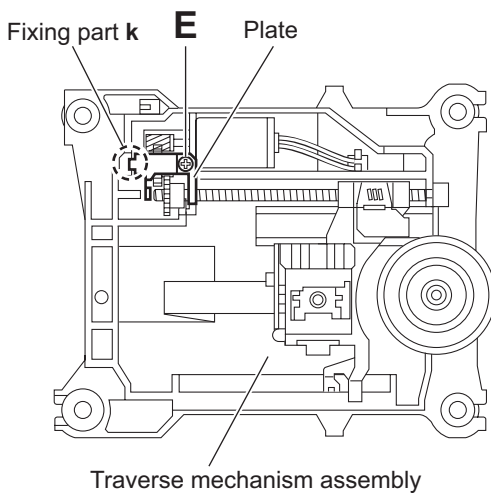

Fig.7
- Remove the one screw **E** attaching the plate from upper side of traverse mechanism assembly. (See Fig.7)
- Remove the plate from fixing part **k** then take out the plate. (See Fig.7)
### 3.2.6 Attaching the pickup (See Fig.7 to 10)
- Attach the plate. (See Fig. 7)